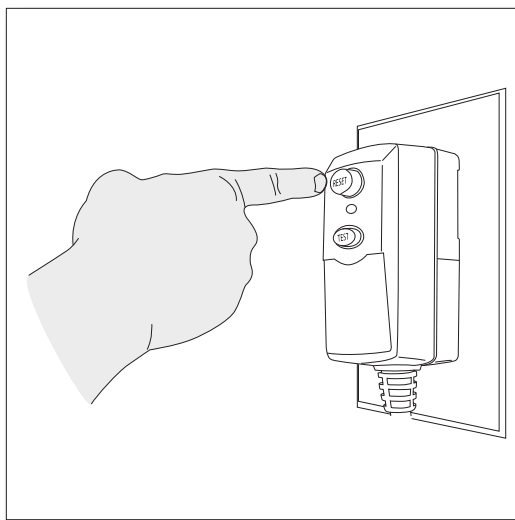

Fig. 20
- Unwind the power cord completely and plug the GFCI into a grounded 120 volt outlet. Press the ‘reset’ button on the GFCI box **(Fig. 20)**. The indicator window should show a red color. This must be done each time the unit is plugged in.